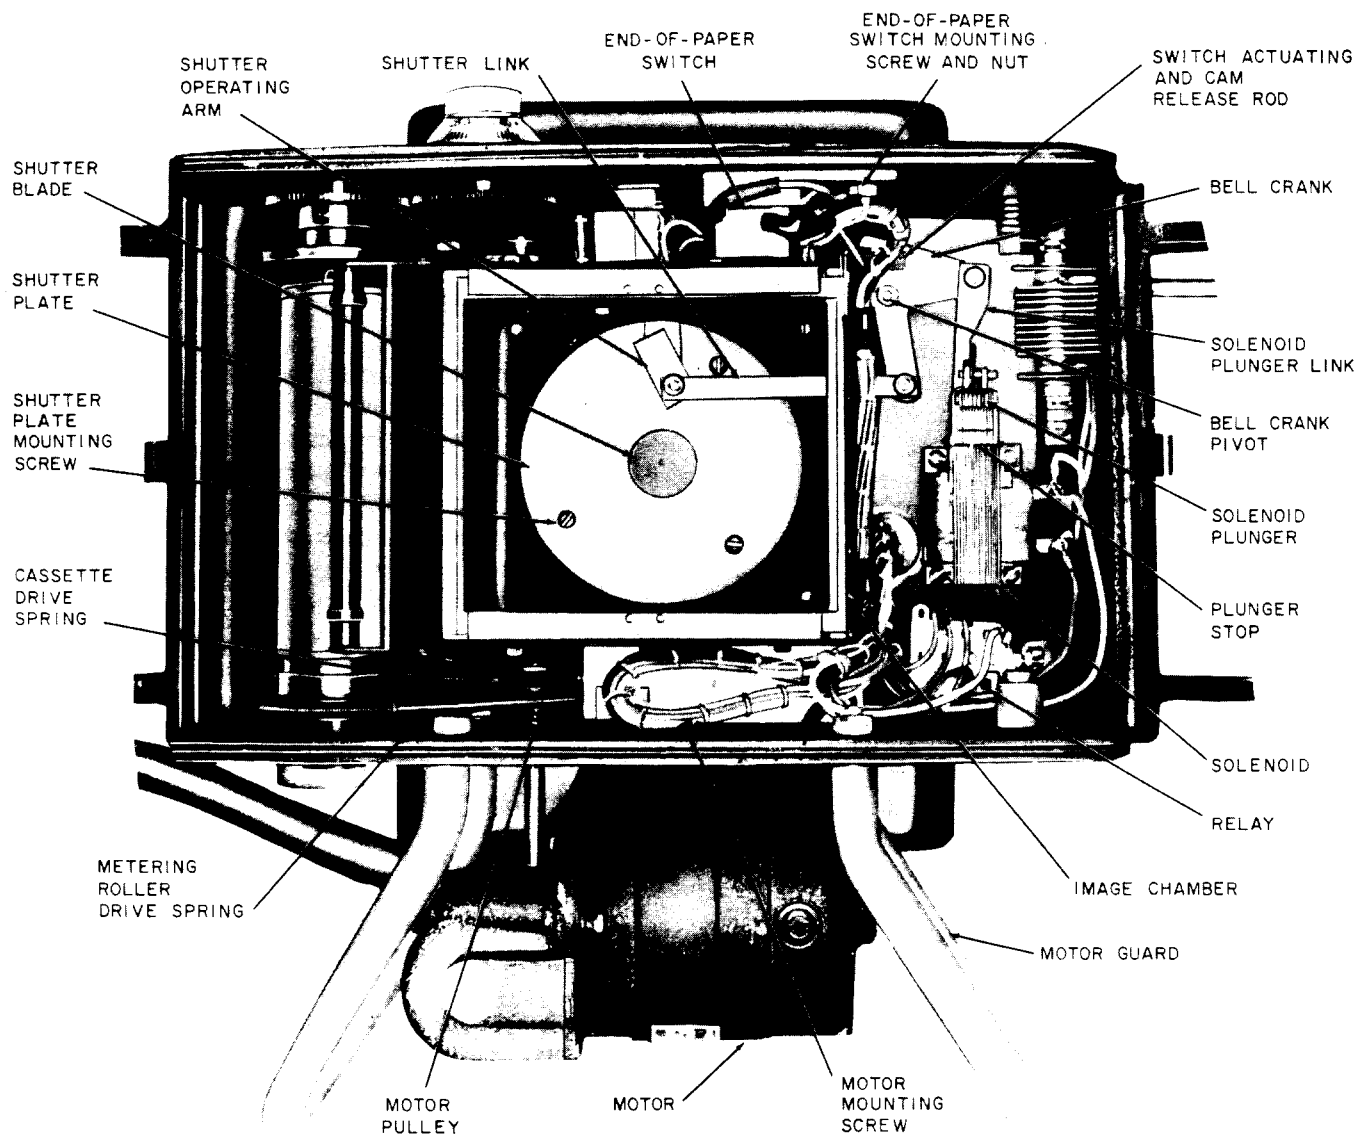
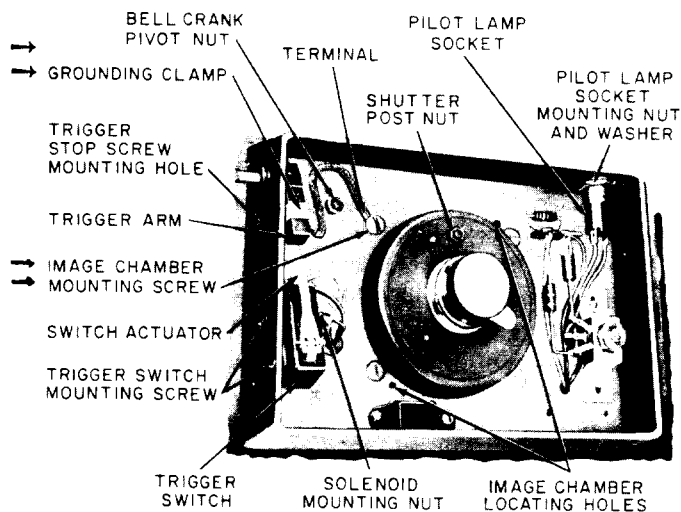

Fig. 10 — KS-14593 L2 Message Register Camera with Cover Removed
Fig. 12 — KS-14593 L2 Message Register Camera — Partial View with Hood Removed
3.07 Removing and Remounting Image Chamber: Fig. 10 —
(1) To remove the image chamber, first remove the camera hood as covered in 3.06. Referring to Fig. 10, remove the retaining rings from the bell crank pivot, from the pin which connects the solenoid plunger link to the bell crank, and from the shutter operating arm pin. To remove a retaining ring, insert the blade of the R-1005 jewelers screwdriver in one of the openings in the ring. Slowly turn the screwdriver toward the center projection
(2) To remount the image chamber, remount the parts removed in (1) in the reverse order of removal. To remount a retaining ring, position the ring with its opening against the groove in the pin. Place the blade of the 3-inch C screwdriver against the outer edge of the ring opposite the center projection. Push the ring into position on the pin. Before tightening the image chamber mounting screws, insert the shanks of the 1/8-inch drills into the image chamber locating holes (Fig. 12) from the lens side of the camera, making sure that the drills enter the corresponding locating holes in the image chamber. With the drills in place, securely tighten the image chamber mounting screws. Remove the drills and remount the camera hood as covered in 3.06.
3.14 Shutter and Shutter Post: Fig. 10 —
(3) If the shutter post is to be replaced, remove the post nut (Fig. 12) and washer using the 417A wrench. Remove the post using the 209 wrench. Mount the new post and securely tighten the post nut making sure the washer is under the nut. Apply a thin film of KS-7471 grease to the cylindrical surface of the post and the top of the hexagonal section at the base of the post using the R-2966 brush. Mount the shutter on the post. Check the position of solenoid requirement in Section 030-301-701.
(4) Position a spacer over each shutter plate mounting screw hole in the camera frame. Position the shutter plate so that the mounting screw holes in the plate are aligned with the spacers and screw holes in the frame. Insert and tighten the mounting screws, making sure that the washers are under the heads of the screws.
(5) Check that the shutter blade clears the shutter plate and the bottom of the shutter housing through its full stroke. If necessary to obtain this clearance, remove the shutter and adjust the blade slightly with the fingers as required. Then remount the shutter and shutter plate and recheck the clearance.
(6) Remount the image chamber as covered in 3.07.
3.21 Solenoid: Fig. 10 and 13 —
- (1) Remove the camera cover. Remove the hood as covered in 3.06. Tag and unsolder the leads to the solenoid. Remove the retaining ring from the pin connecting the solenoid plunger link to the solenoid. Remove the pin. Remove the solenoid mounting screws with the 3-inch C screwdriver while holding the mounting nuts (Fig. 12) on the hood side of the camera with the 418A wrench. Take care not to lose the lockwashers. Remove the solenoid. Check the solenoid mounting shim and replace it if torn or otherwise damaged.
- (2) Mount the new solenoid on the shim and tighten the mounting screws friction tight, making sure the washers are in place under the nuts on the hood side of the camera. Connect and solder the leads. Adjust the position of the solenoid to meet the position of solenoid requirement in Section 030-301-701. Securely tighten the solenoid mounting screws. Remount the hood cover.
3.22 Shutter Link: Fig. 10 — Remove the camera cover. Remove the retaining rings from the pins connecting each end of the link. Remove the link through the image chamber. Mount the new link and remount the retaining rings.
3.23 Solenoid Plunger Link: Fig. 10 — Remove the camera cover. Remove the retaining ring on the pin connecting the link to the solenoid
3.24 Bell Crank: Fig. 10 — Remove the image chamber as covered in 3.07. Remove the retaining ring on the pin connecting the bell crank to the switch actuating and cam release rod. Remove the pin. Substitute the new bell crank. Insert the pin and mount the retaining ring. Wipe the bell crank pivot with a KS-2423 cloth slightly moistened with KS-7860 petroleum spirits and apply a thin film of KS-7471 grease to the pivot using the R-2966 brush. Remount the image chamber as covered in 3.07.
3.25 Bell Crank Pivot: Fig. 10 — Remove the image chamber as covered in 3.07. Using the 417A wrench, remove the bell crank pivot nut on the lens side of the camera shown in Fig. 12. Remove the pivot taking care not to lose the washer. Mount the new pivot and securely tighten the nut making sure the washer is in place under the nut. Apply a thin film of KS-7471 grease to the pivot with the R-2966 brush. Remount the image chamber as covered in 3.07.
3.26 Grounding Clamp: Fig. 12 —
(1) **General:** The trigger on the KS-14593 L1 camera must be grounded to the camera case with a grounding clamp as shown in Fig. 12. To check this, remove the camera hood in accordance with 3.02 and 3.06. If the trigger arm is not grounded, order a grounding clamp (see Fig. 3) and mount the part as covered in (3). If it is necessary to replace a grounding clamp, proceed as covered in (2) and (3).
(2) To replace a grounding clamp, loosen the image chamber mounting screw with the 5-inch E screwdriver and remove the grounding terminal. Hold the switch actuator away from the trigger arm and slide the grounding clamp until it is off the trigger arm.
(3) Mount the new grounding clamp as follows: Hold the switch actuator away from
3.27 Trigger Switch: Fig. 12 —
3.29 *End-of-Paper Switch and Mounting Block:* Fig. 10 —